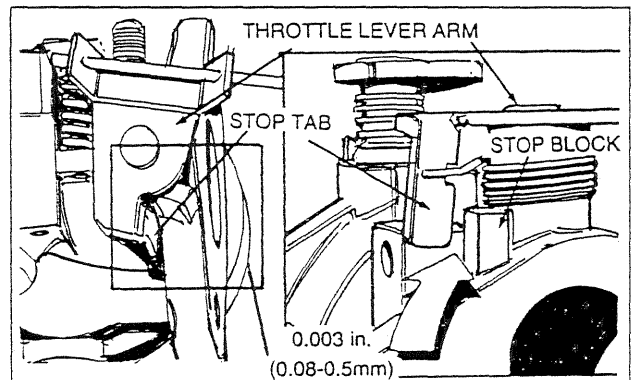

Figure 9 — Gap Between Stop Tab and Stop Block
Use the following procedure to assure the linkage rod is properly adjusted (see Figure 9):
2. There should be a gap of 0.003 inch (0.08-0.5mm) between stop tab on throttle lever arm and the stop block on the carburetor die casting (Figure 9).